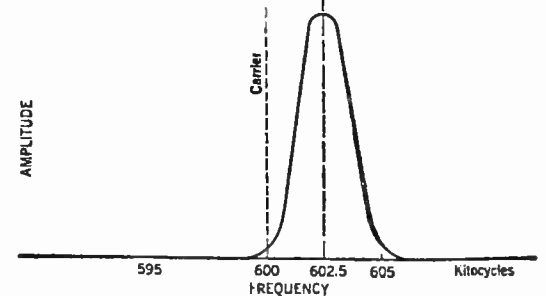

FIG. 4
*Answer.* See Fig. 4, which has reference to the same example used to illustrate the answer to Question 1. Now, however, the circuit has been tuned so that the peak of the resonance curve occurs at 602.5 kilocycles instead of at the carrier frequency of 600.0 kilocycles. As a result, the peak of receptivity, after demodulation, has been shifted from currents of frequencies in the neighborhood of zero cycles to currents in the neighborhood of 2500 cycles per second. If, owing to the steepness of the resonance curve, the cut-off characteristic of the circuit becomes serious one kilocycle to either side of the peak, as assumed in the answer to Question 1 above, with the peak set at 602.5 kilocycles the audio frequencies up to 3.5 kilocycles are nevertheless included in the received band. It will be seen that through this mechanism a sharply tuned radio frequency circuit may be used to some degree as an equalizing or frequency correcting device in reception. This observation may be checked in practice. A similar phenomenon is found in some super-heterodyne receivers.